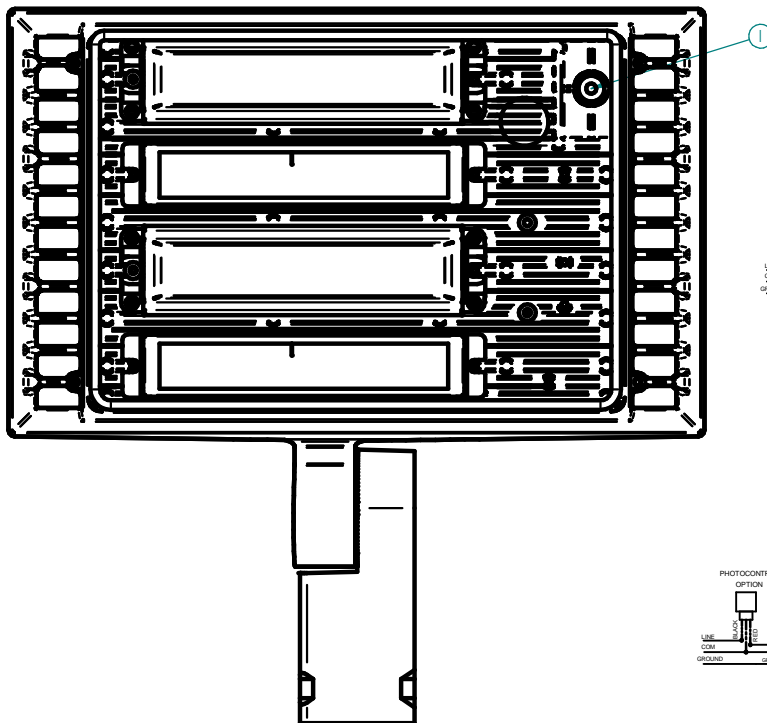

FIGURE 5
- Remove the front plate and drill an 1 1/16" (0.6875") diameter hole on the location provided (Item 1, Fig 5).